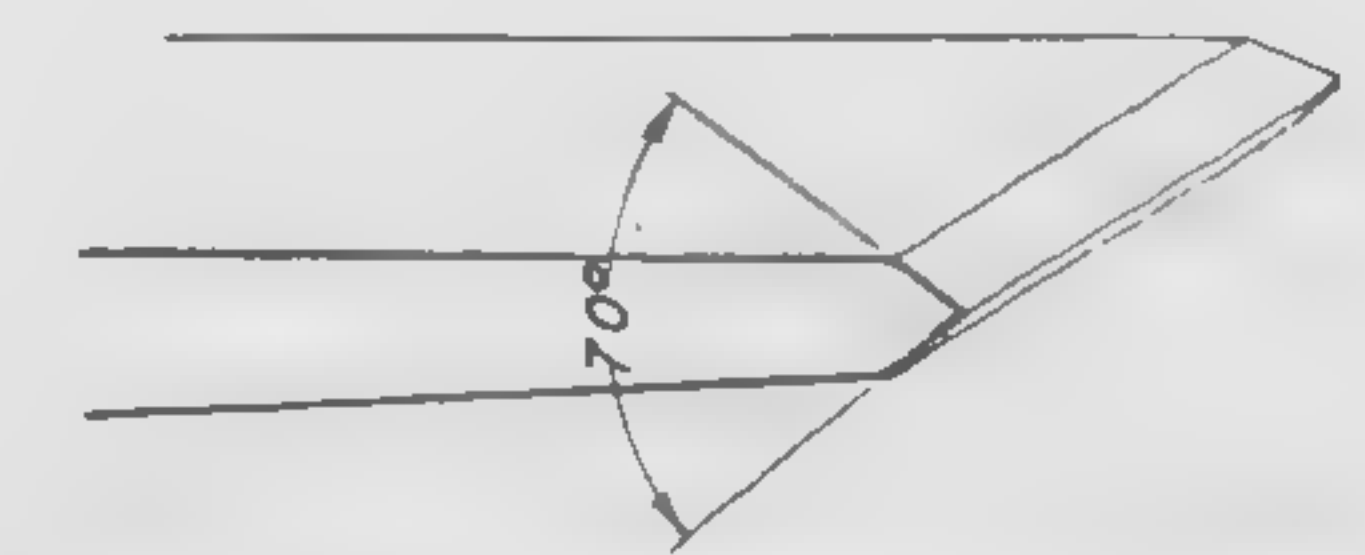

Fig. 4. Correct Angle at Cutting Edge
5. Do not grind the chisel with too sharp a cutting angle. The best angle is 70 degrees, which is almost a right angle. See Figs. 4 and 5.